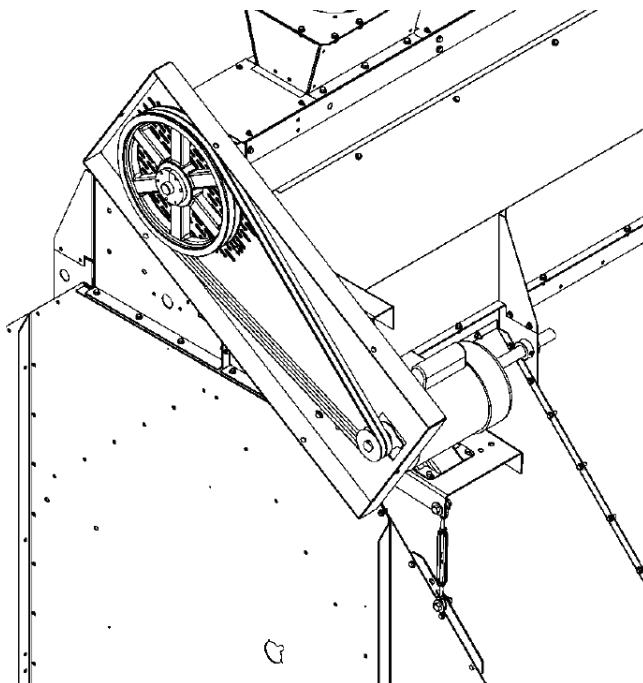

Fig. 2-22 - Final assembly (without front shield)
5. Attach a 10.8 cm O.D. pulley to motor shaft with a key and attach pulley to top load auger with a taper lock bushing. Use straight edge to align pulleys. Attach two B95 belts between auger pulley and motor pulley. Tighten turnbuckle to tighten belts See Fig. 2-22. **Tension belts so it takes about 2.7 kg. (6 lbs.) pressure to deflect belt 1/2" at center of belt span.**
6. Final assembly should appear as in Fig. 2-22 (Shown without front shield).